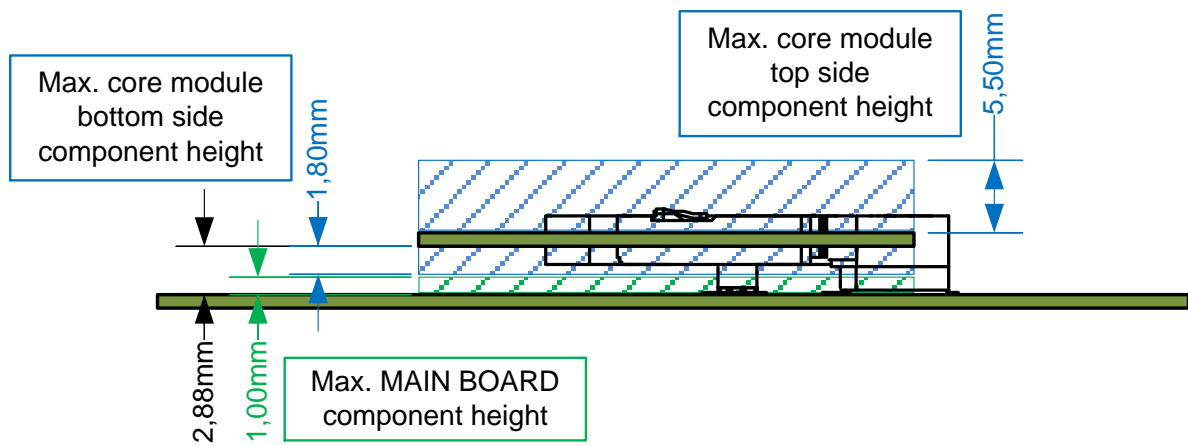

Figure 10: Maximum component heights
- Figure 10 shows an example with 5,2mm SODIMM-200 socket height.
- Figure 10 doesn't consider DHCOM-X (Molex High Speed Connector) socket.